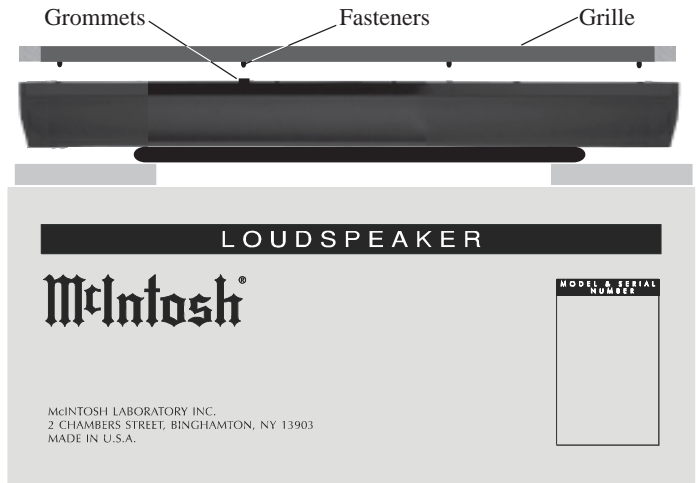

Figure 12
12. Rotate the XCS350 Loudspeaker over with the front facing up, being careful not to damage the Loudspeaker Drivers. Refer to figure 12.